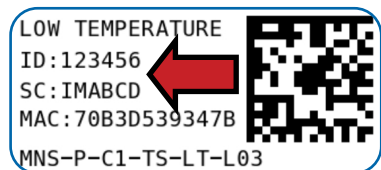

Figure 9
2. Find the device ID. See Figure 9.